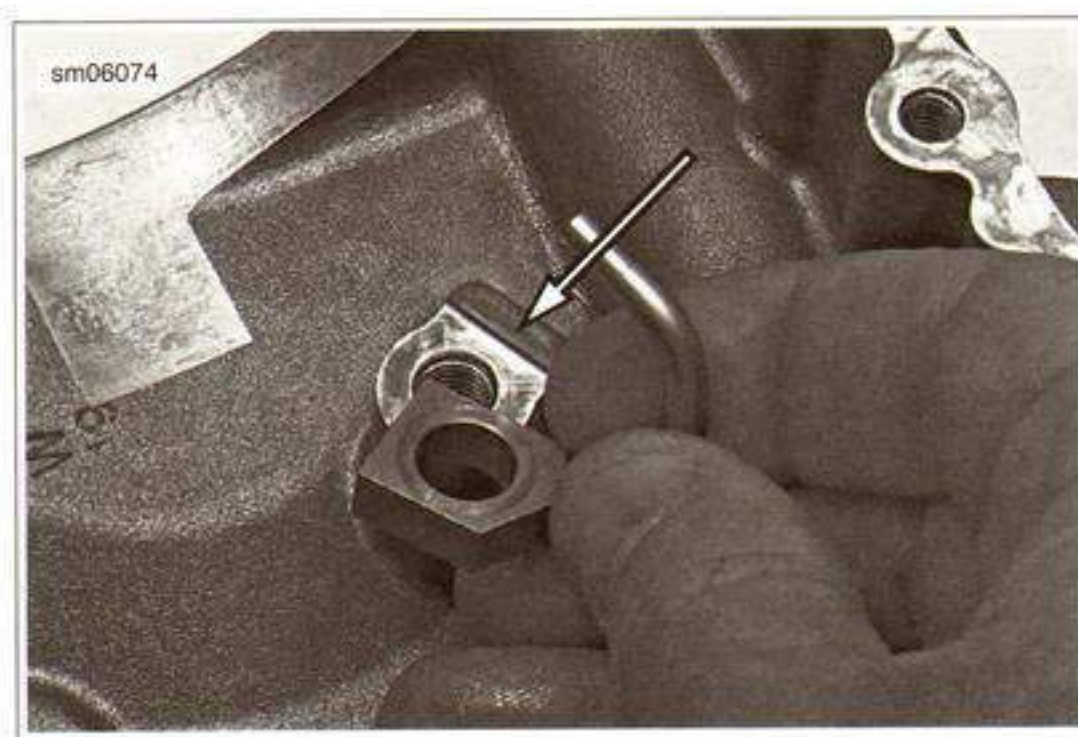

Figure 3-177. Oil Nozzle Mount Shoulder
- See Figure 3-177. Fit the oil nozzles to the shoulder on the case mounts.